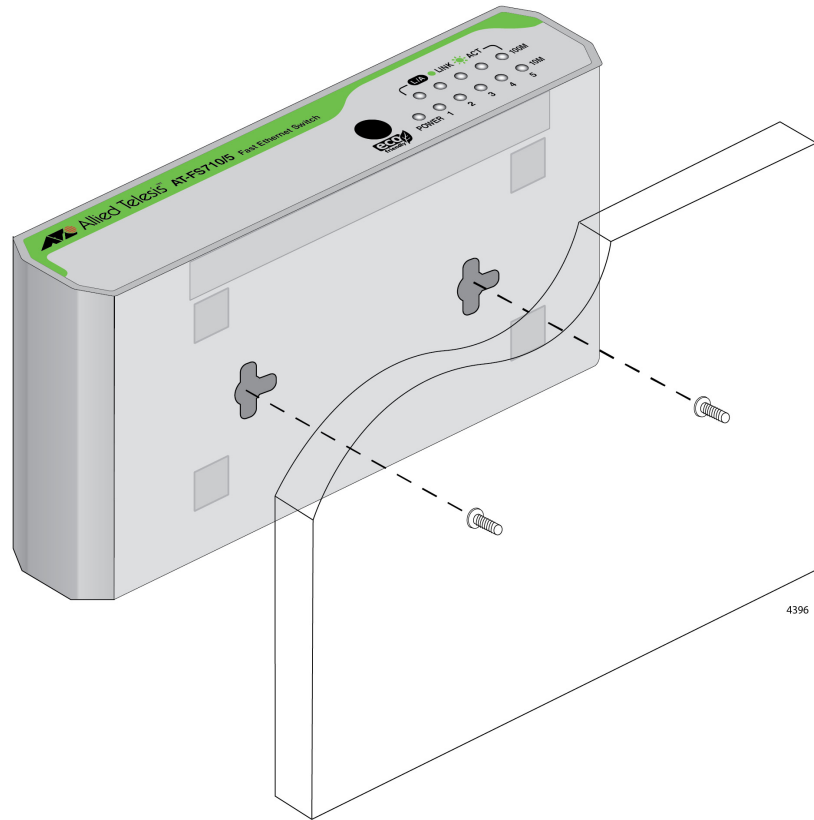

Figure 17. Aligning and Securing an AT-FS710/5 or 5E Switch onto Wall Screws
11. Align the switch chassis over the two screws (towards the wall) as illustrated in Figure 17 and slide it down until it is locked on the two screw heads .